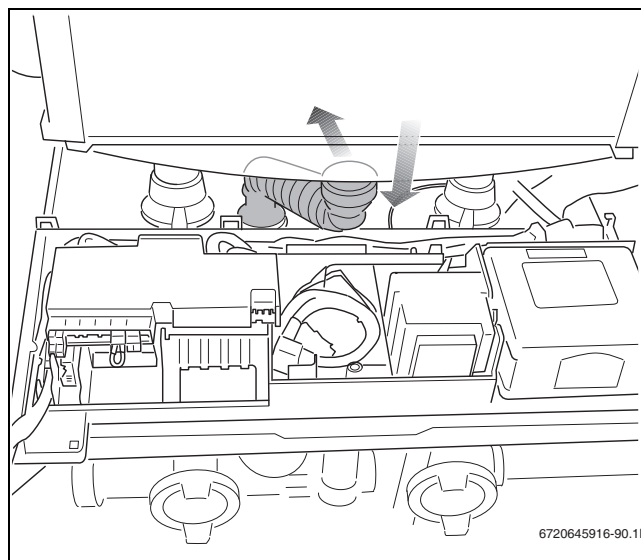

Fig. 92 Removing the condensate trap hose
- Disconnect the flexible condensate drain hose and bend it backwards (→ fig. 92).